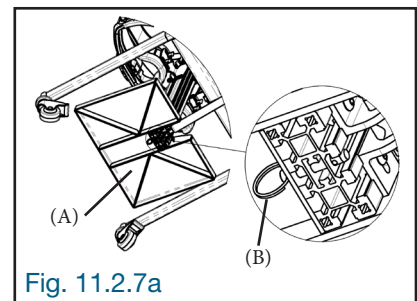
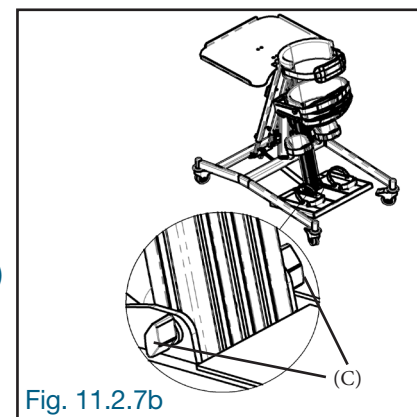
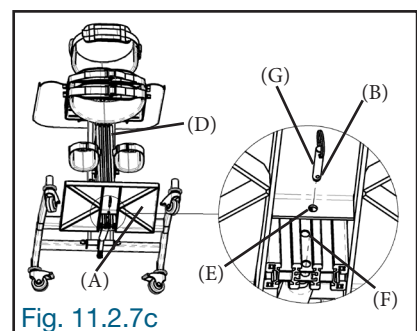

Fig. 11.2.7a
Fig. 11.2.7b
Fig. 11.2.7c
Remove the quick-release pin (B) under the footplate (A) (Fig. 11.2.7a). Loosen the knobs (C) slightly on each side of the footplate (A) (Fig. 11.2.7b).
Slide the footplate (A) on the frame (D) to align the hole (E) in the footplate with the desired hole (F) in the frame (Fig. 11.2.7c). Insert the quick-release pin (B) under the footplate (A). Make sure the lock (G) of the pin (B) is completely disengaged from the other side of the frame (D) so that it is securely locked (Fig. 11.2.7a).
Tighten the knobs (C) on each side of the footplate (A) (Fig. 11.2.7b).